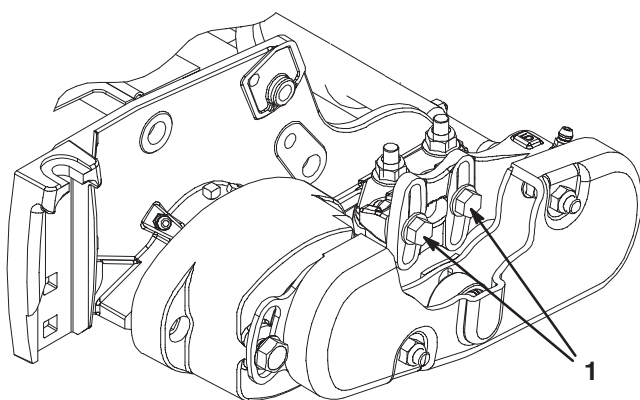

Figure 37
1. Loosen the (2) bolts securing each roller brush bearing housing to the roller brush mounting bracket (Fig. 37 & 38).